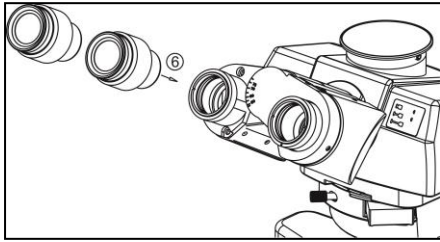

Fig 7
4-2-5 Install Eyepiece(fig 7)
1. Inset eyepiece into the eyepiece sleeve according to the path ⑥ shown in the figure 7.